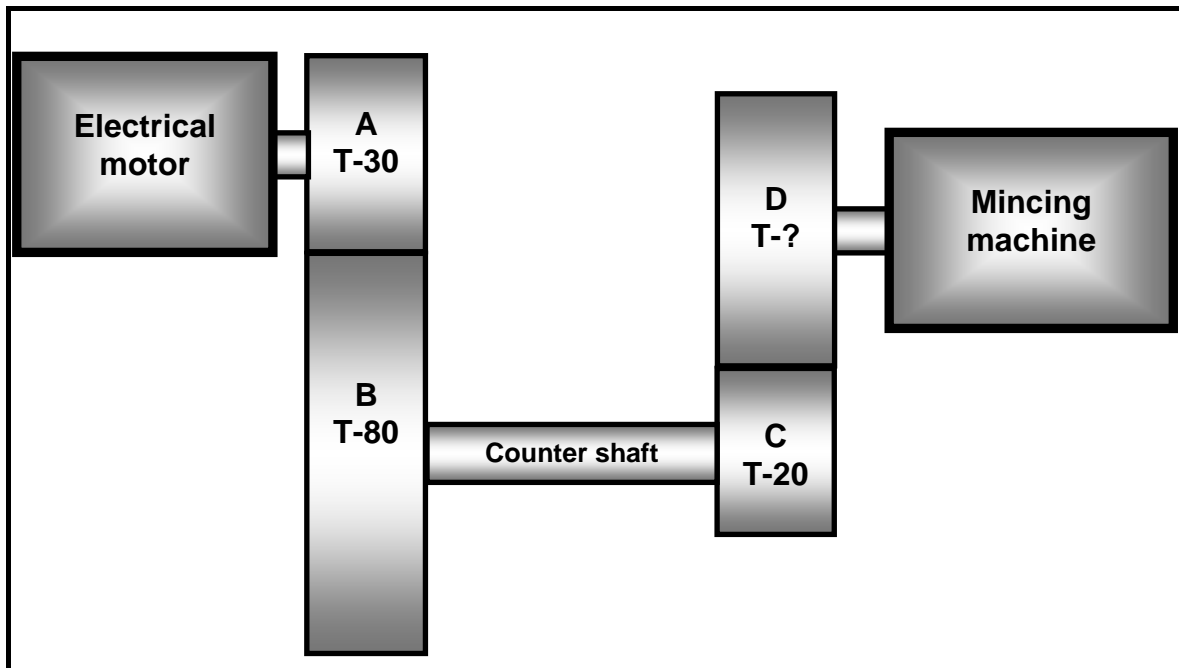

FIGURE 2.4
- 2.4 Study FIGURE 2.4 below. Lukas is the engineer who must design a gear drive for a mincing machine. The shaft of the mincing machine must rotate at 90 r/min. The rest of the gear drive is as follows: